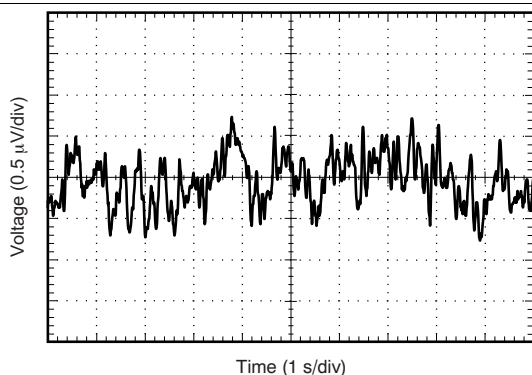

Figure 11. 0.1-Hz to 10-Hz Input Voltage Noise
0.1-Hz to 10-Hz Input Voltage Noise (5.5 V)	Figure 11